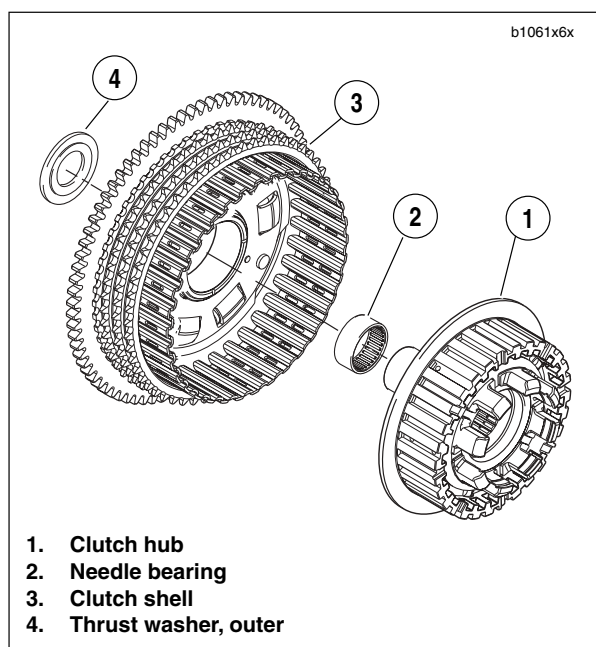
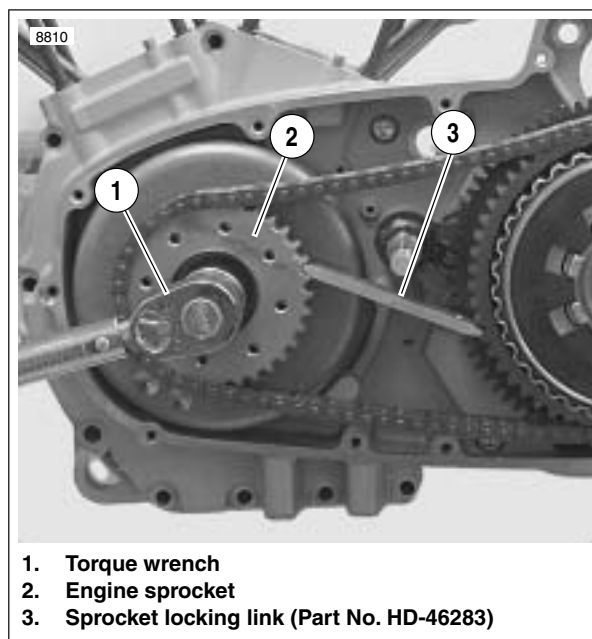

Figure 6-33. Clutch Hub and Shell Assembly
Figure 6-34. Sprocket Locking Link Tool
1. See Figure 6-33. Assemble clutch hub (1) and shell (3) by sliding inboard end of clutch hub into shell bearing(2) by hand. No tools are required.
3. Verify that outer thrust washer (4) is installed on transmission shaft.
5. See Figure 6-34. Install the engine sprocket nut.